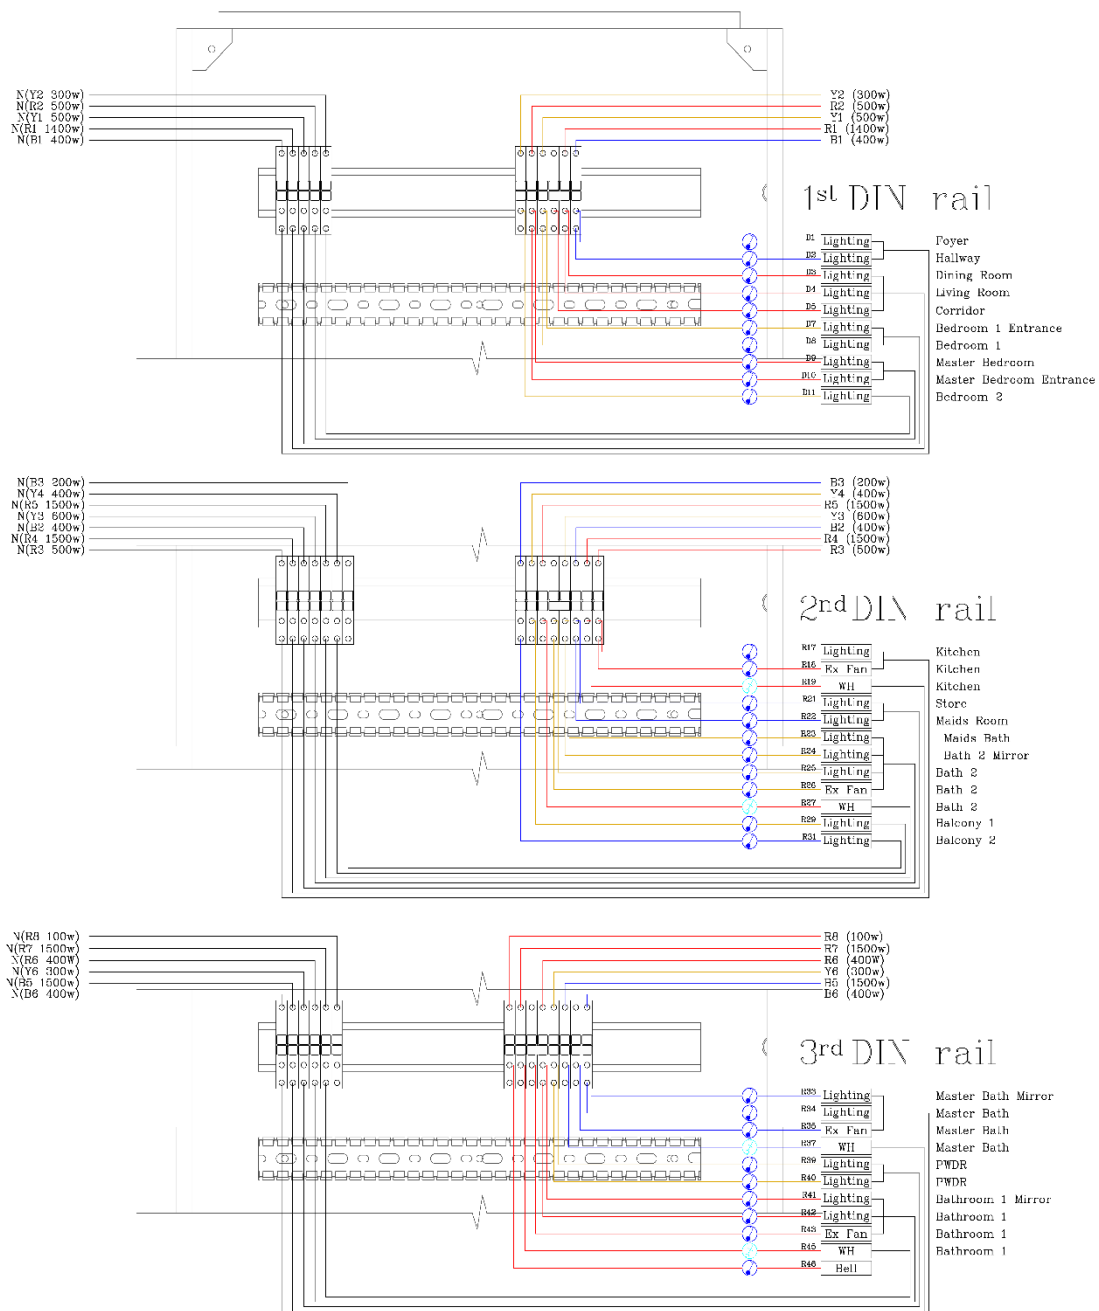

Figure 1.2.4: 1st, 2nd and 3rd Din rail Schematic Diagram
- D1, D2, D3... up to D16 for Dimmer Module Channels. The connections termination should start from the right side of the 1st DIN rail as shown in Figure 1.2.4.
- R17, R18, R19... up to R48 for Relay Module Channels. The connections termination should start from right side of the 2nd and 3rd DIN rails as shown in Figure 1.2.4.
- The loads connections to the dimmer module are shown in Figure 1.2.4.
- The loads connections to the relay module are shown in Figure 1.2.4.